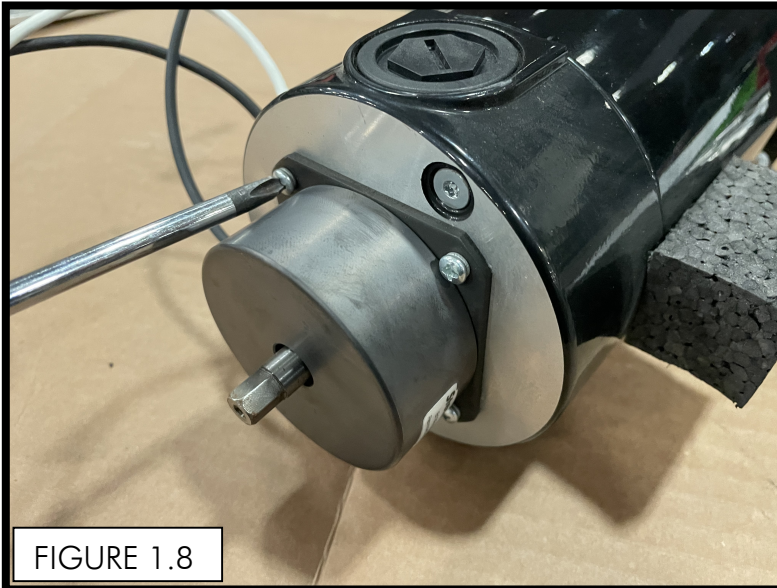
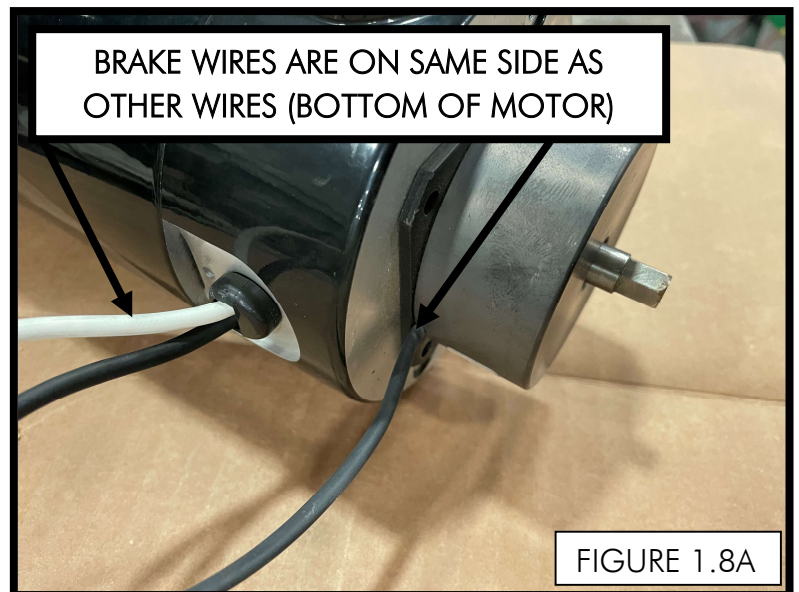

FIGURE 1.8
FIGURE 1.8A
ONCE THE MOTOR IS REMOVED FROM THE COVER, REMOVE THE (4) SCREWS AND (4) WASHERS SECURING THE BRAKE TO THE MOTOR (FIGURE 1.8). NOTE THE ORIENTATION OF THE WIRES BEFORE REMOVING THE BRAKE (FIGURE 1.8A).